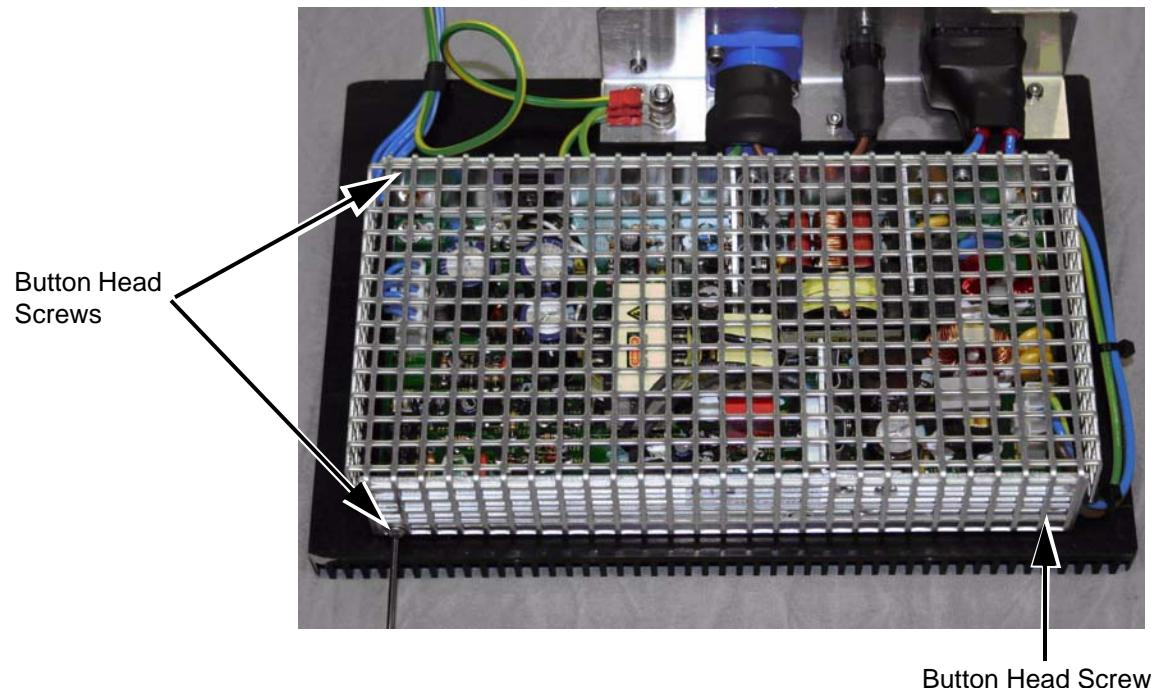

Figure 5-4:Power Supply Guard - Removal
- 3 Remove the three button-head screws and washers securing the power supply guard and remove it from the top cover (Figure 5-4).